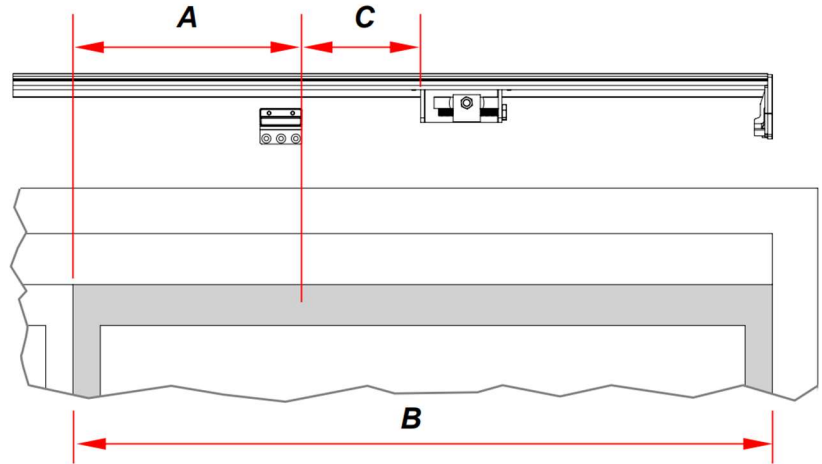
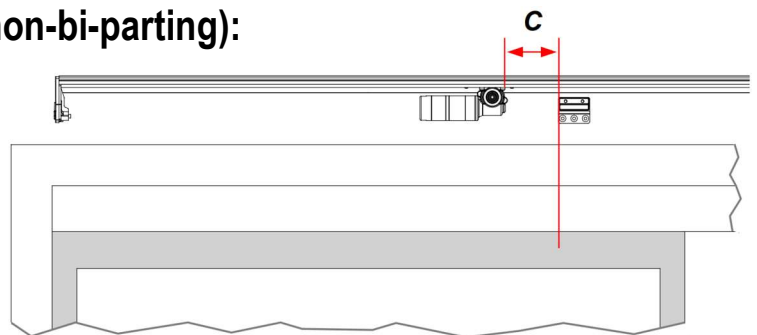

Figure 19: Left-opening sliding door: belt tensioner and bottom bracket. The right side is shown with sliding door closed.
Figure 22: Left-opening sliding door with motor and bottom bracket. The left side is shown with the sliding door
2. Slide the belt tensioner along the base until it is in front of **closed sliding door** as shown in Figure 19, where:
4. Mark the position of the bottom bracket on both the base and the door as in Figure 19.
2. Slide the motor along the base until it is 1.97" (50 mm) from the mark you made on the door for the bottom bracket position (Figure 19 and Figure 22, where **C** = 1.97" or 50 mm).